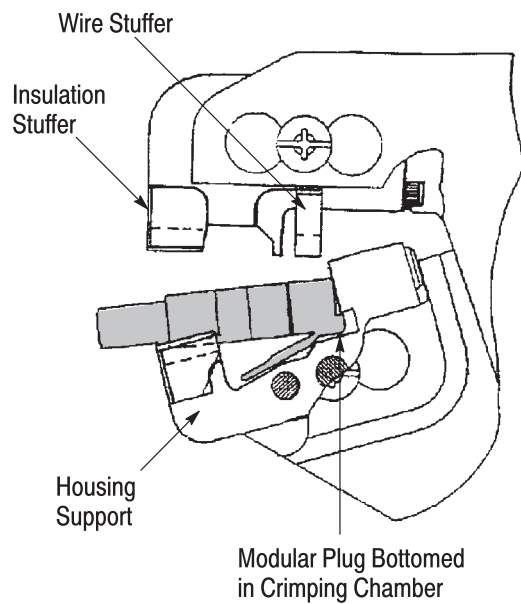

Figure 3
2. Hold the tool so that the back is facing you. Insert the modular plug (including shield and cable) in the crimping chamber until it *bottoms*. Refer to Figure 3.